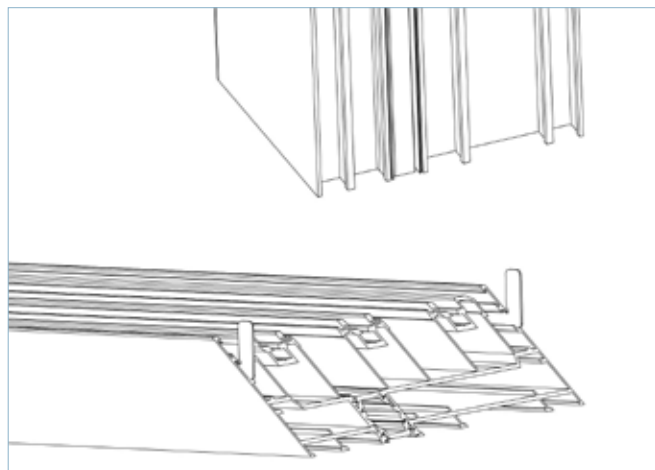

FIG 6
2. Insert the alignment chevrons. Location – directly beneath brush gasket position (FIG 6)